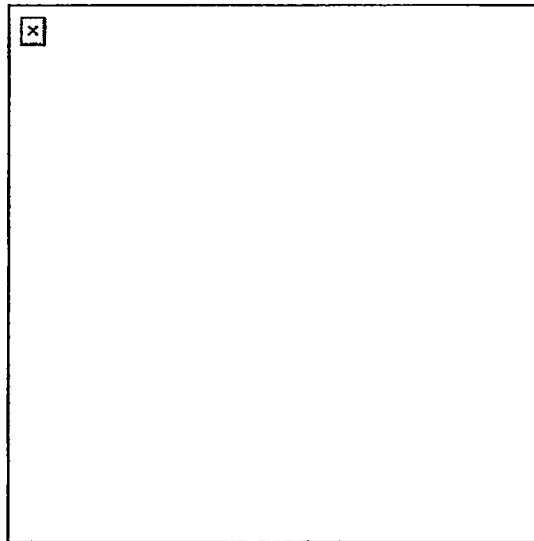

Figure 1. Notched-stake or tree-crotch method of engaging predetermined targets.
1. Fabricate notched stakes or tree crotches if needed (Figure 1).
- (1) Raise the cover assembly. Pull the upper retaining pin at the rear of the receiver to the left. Let the butt pivot downward so the rear opening of the receiver is clear (Figure 1).